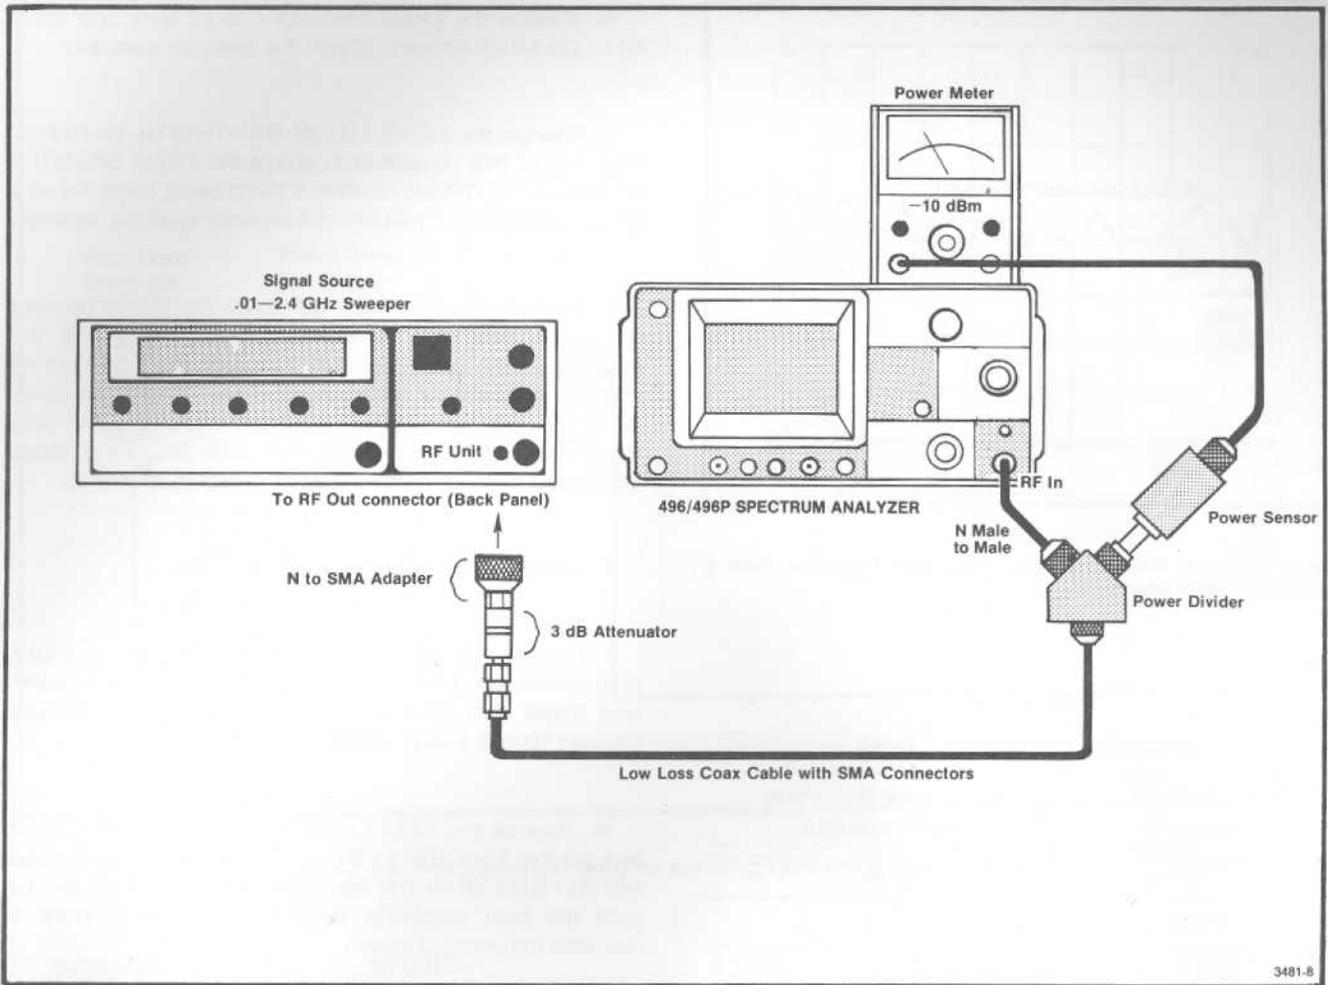

Fig. 3-6. Test equipment setup for measuring the 0.01-1.8 GHz frequency response.
e. Replace the 100 kHz to 10 MHz signal source with a 0.01 to 2.4 GHz sweep oscillator and connect the test equipment as shown in Fig. 3-6. The output of the sweep generator is applied through a 3 dB attenuator and high performance coaxial cable to a power divider. Connect one end of the power divider directly to the RF INPUT and the other output to the sensor for the power meter.